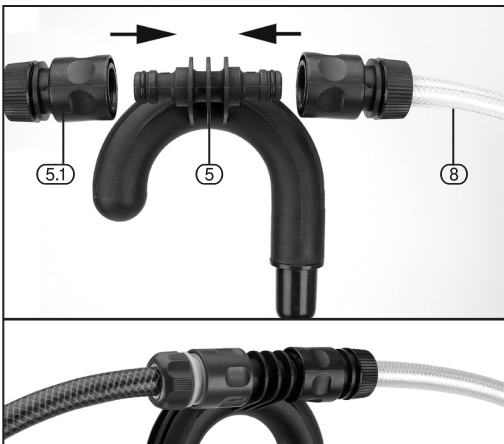

FIG. 3
7.2 CONNECTION TO HOSE - FIGS. 3 - 4